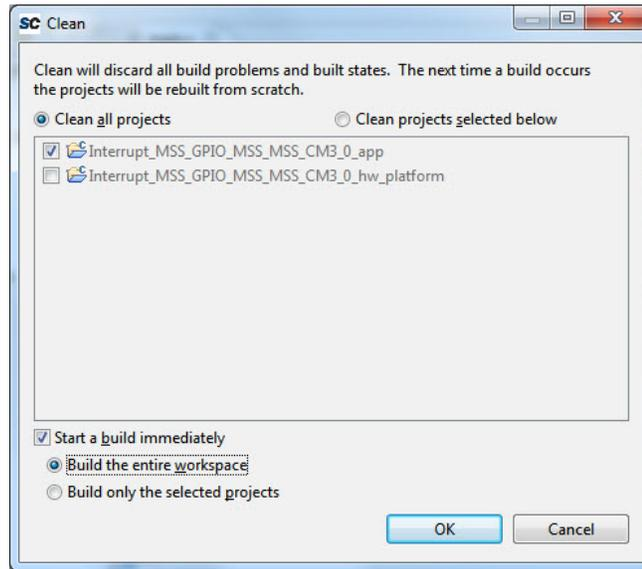

Figure 6-2 • Settings for a Clean Build
4. From the **Project** menu, choose **Clean** to perform a clean build. Accept the default settings in the Clean dialog box and click **OK** (Figure 6-2).